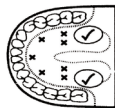

Figure 2
a) **Oral Use:** Place thermometer under tongue as indicated by "✓" position shown in Figure 2. Close your mouth and breathe evenly through the nose to prevent the measurement from being influenced by inhaled/exhaled air. Normal temperature between 35.7°C and 37.3°C (96.3°F and 99.1°F).